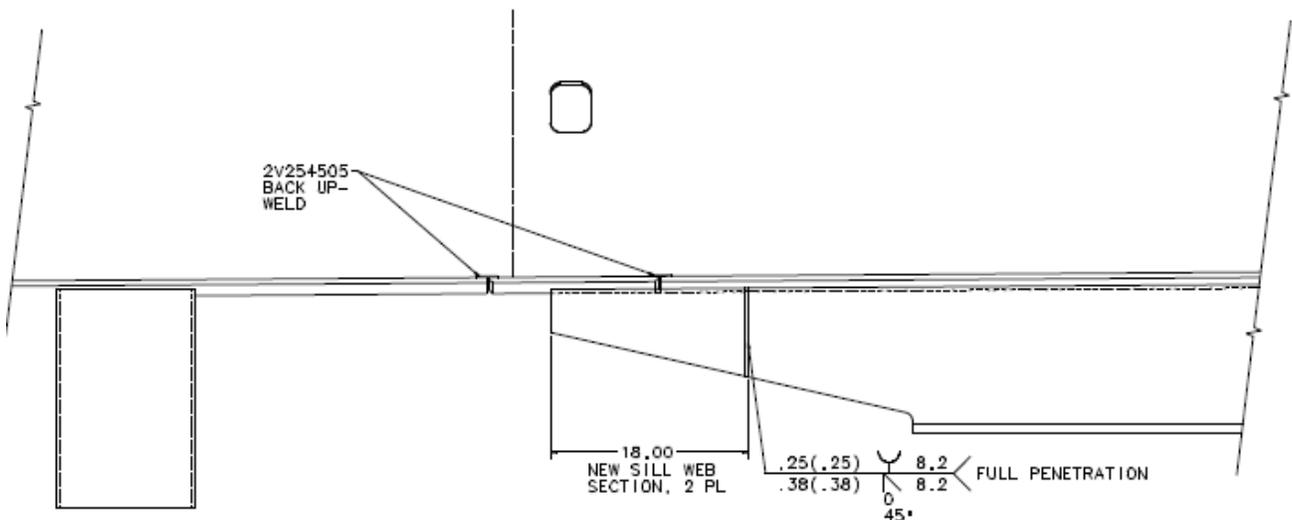

Figure 7
- xiii. Re-apply the draft sill side web sections removed in part 2.B.i. 100% penetration butt weld the vertical weld joint per Figure 7.